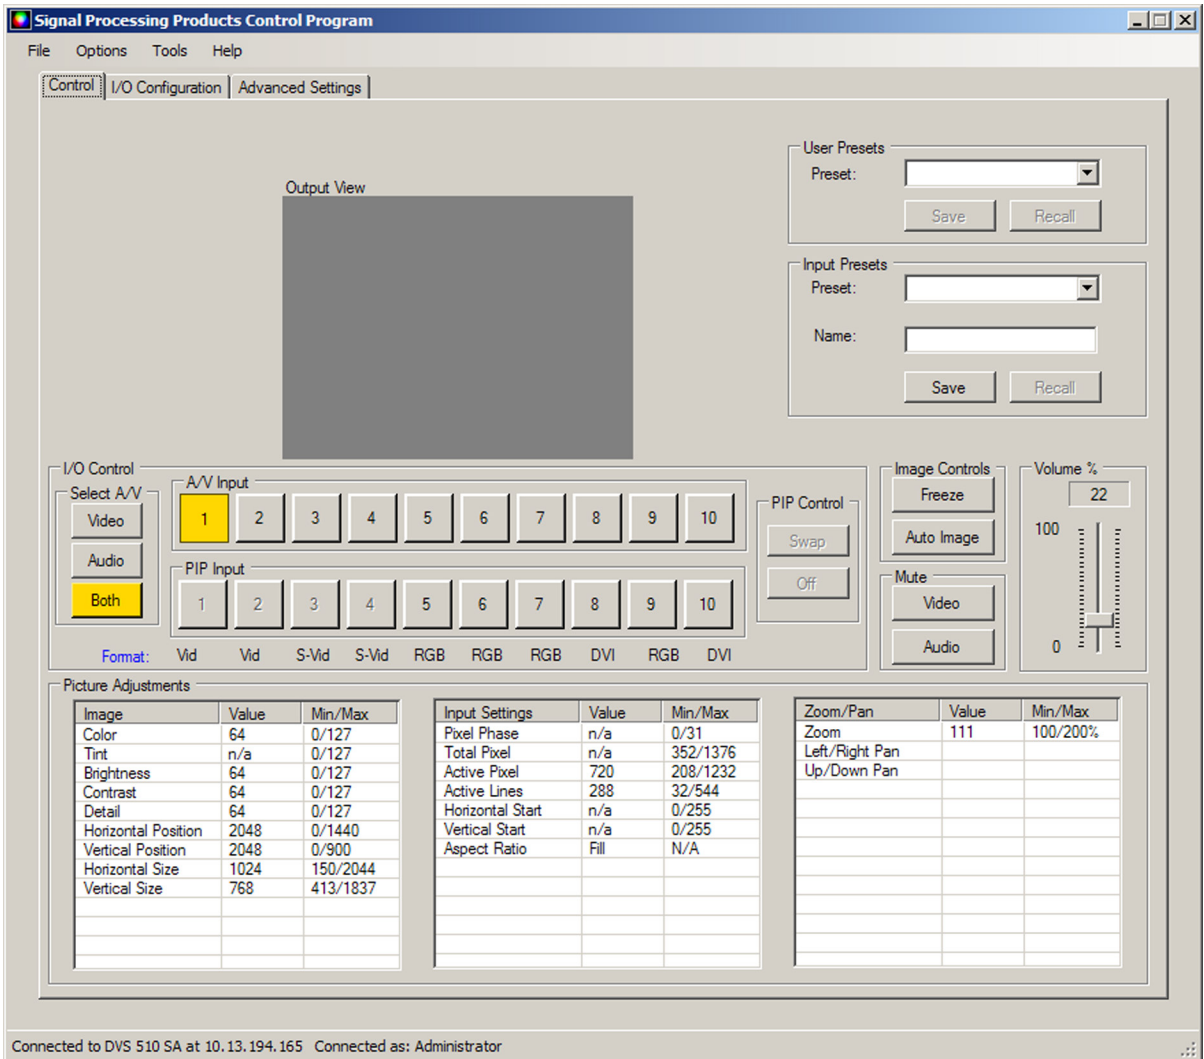

Figure 32. Signal Processing Products Control Program Main Window
- Click **Connect**. The Signal Processing Products Control Program main window opens (see figure 32), and the software is ready for operation.